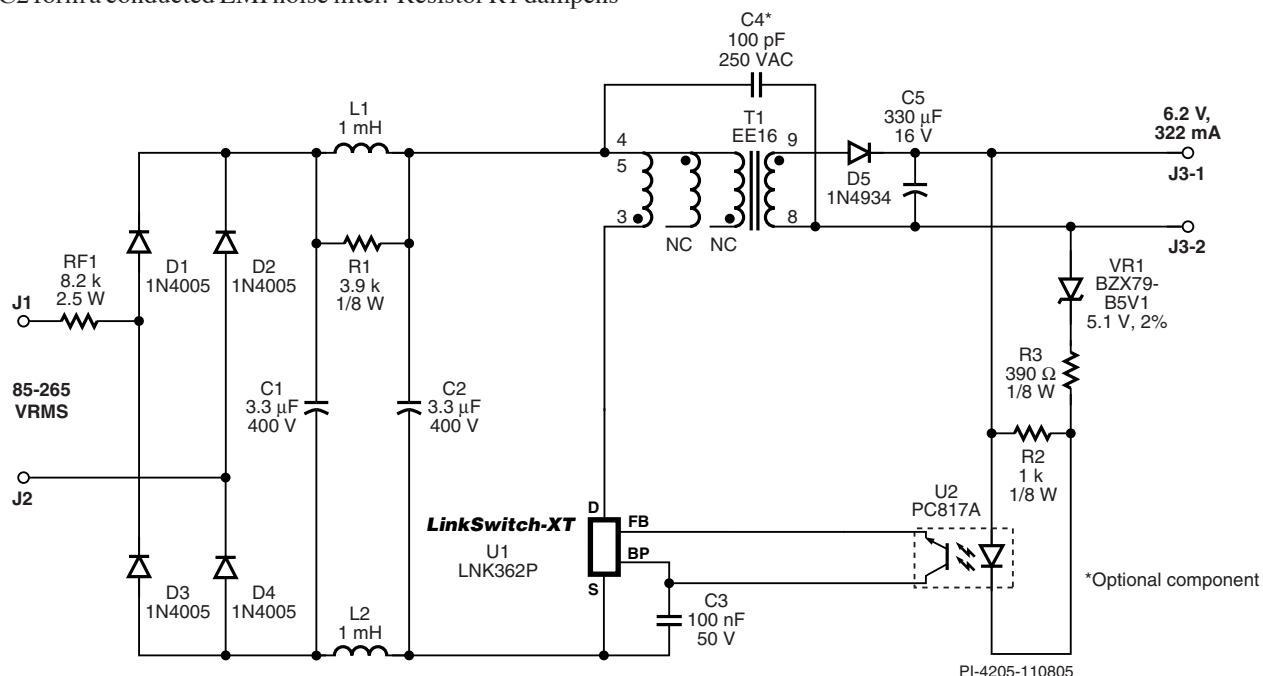
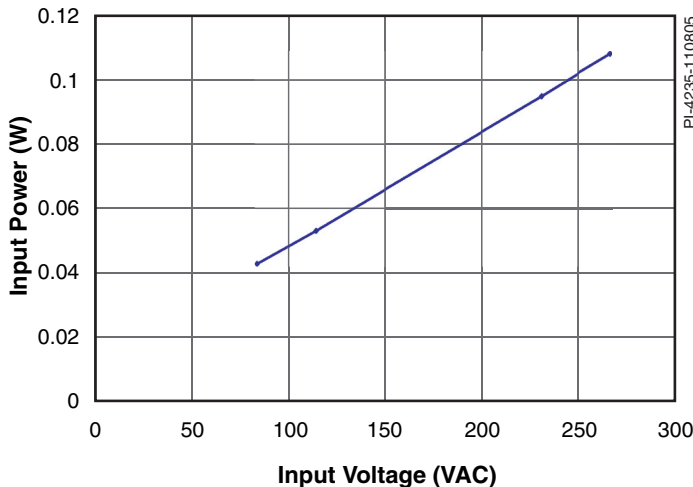
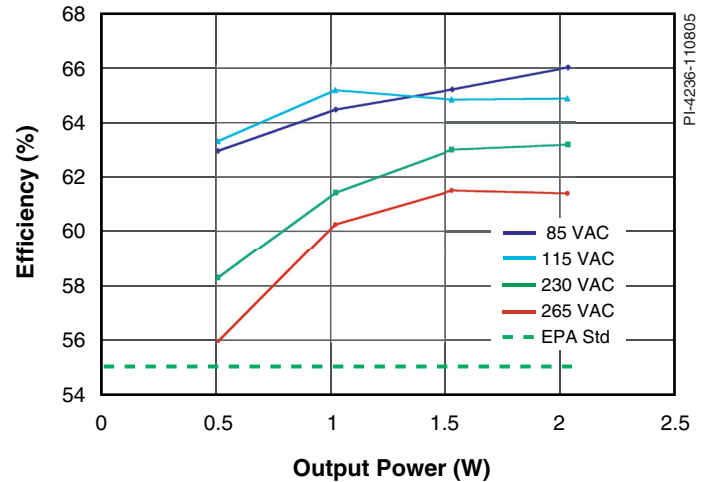

Figure 1. LNK362 Based 6.2 V, 322 mA, 2 W, Low-cost, Flyback CV Output Power Adapter.
Figure 2. No-load Input Power Consumption vs. Input Voltage.
Figure 3. Harmonized (EPA, CEC) Active-Mode Efficiency vs. Output Power (25, 50, 75 & 100%).
This *LinkSwitch-XT* based flyback converter (Figure 1) provides 2 W of tightly regulated constant voltage (CV) output power, while meeting the active-mode efficiency and no-load power consumption requirements of all harmonized energy efficiency (EPA, CEC) standards (see Figure 2 and Figure 3).